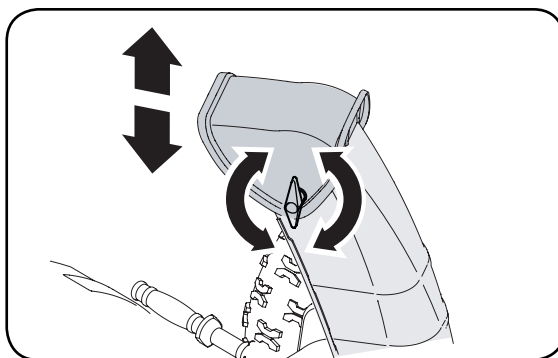

Figure 5-8
2. Pivot the chute upward or downward before retightening the wing knob. See Figure 5-8.